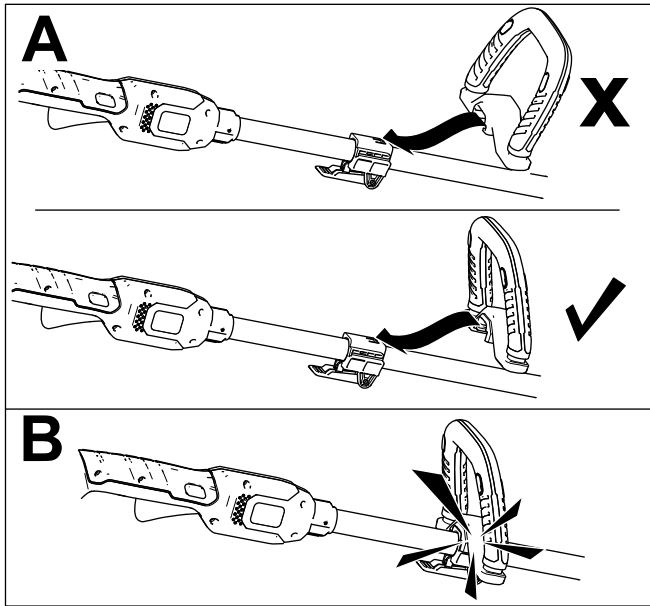

Figure 3
1. Line up the groove along the handle with the groove on the auxiliary handle and slide the auxiliary handle toward the trimmer handle (A of Figure 3).
2. Snap the handle securely into place (B of Figure 3).